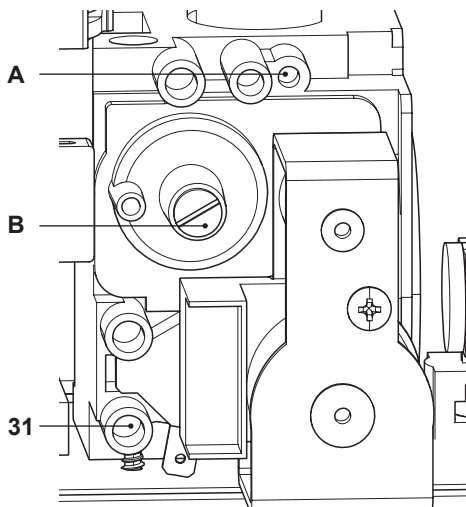

Fig. 7.9
- With the boiler switched on at full rate (maximum output power), check the supply pressure by using the 31 point in Fig. 7.9 and compare the value with that reported on the Gas supply pressure table (minimum inlet pressure) in the "Technical Data" section (page 26 **Advance Plus 25C ERP**, page 30 **Advance Plus 30C**
- Ensure the test nipple 31 in Fig. 7.9 is firmly closed.